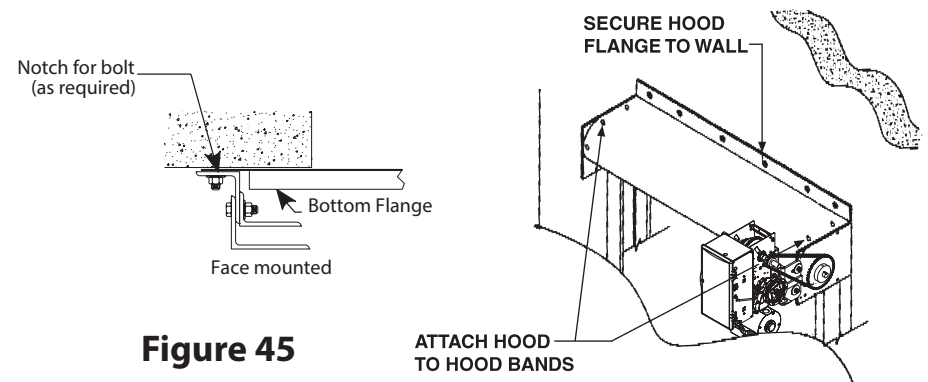

Figure 45
- Attach the hood to the hood band on headplate bracket by drilling a 7/32" hole through the hood and band. Then secure hood with 1/4" tapping screw, maximum length 7/16". Longer screws can prevent door closing. Use four screws per bracket. See Figure 45.
- Attach the hood to hood bands and hood support with 1/4" dia. by 3/8" long tapping screws; longer screws may prevent door closure. Use four screws on each hood band and support. See Figure 45.